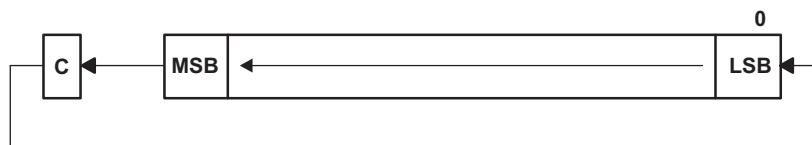

Figure 4-45. Destination Operand-Carry Left Shift
Description	The destination operand is shifted left one position as shown in Figure 4-45 . The carry bit (C) is shifted into the LSB and the MSB is shifted into the carry bit (C).